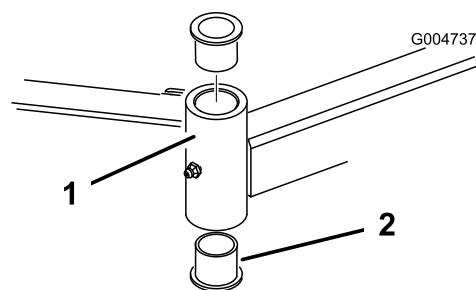

Figure 93
4. Insert a pin punch into the top or bottom of the mounting tube and drive the bushing out of the tube (Figure 93). Also drive the other bushing out of the tube. Clean the inside of the tubes to remove dirt.